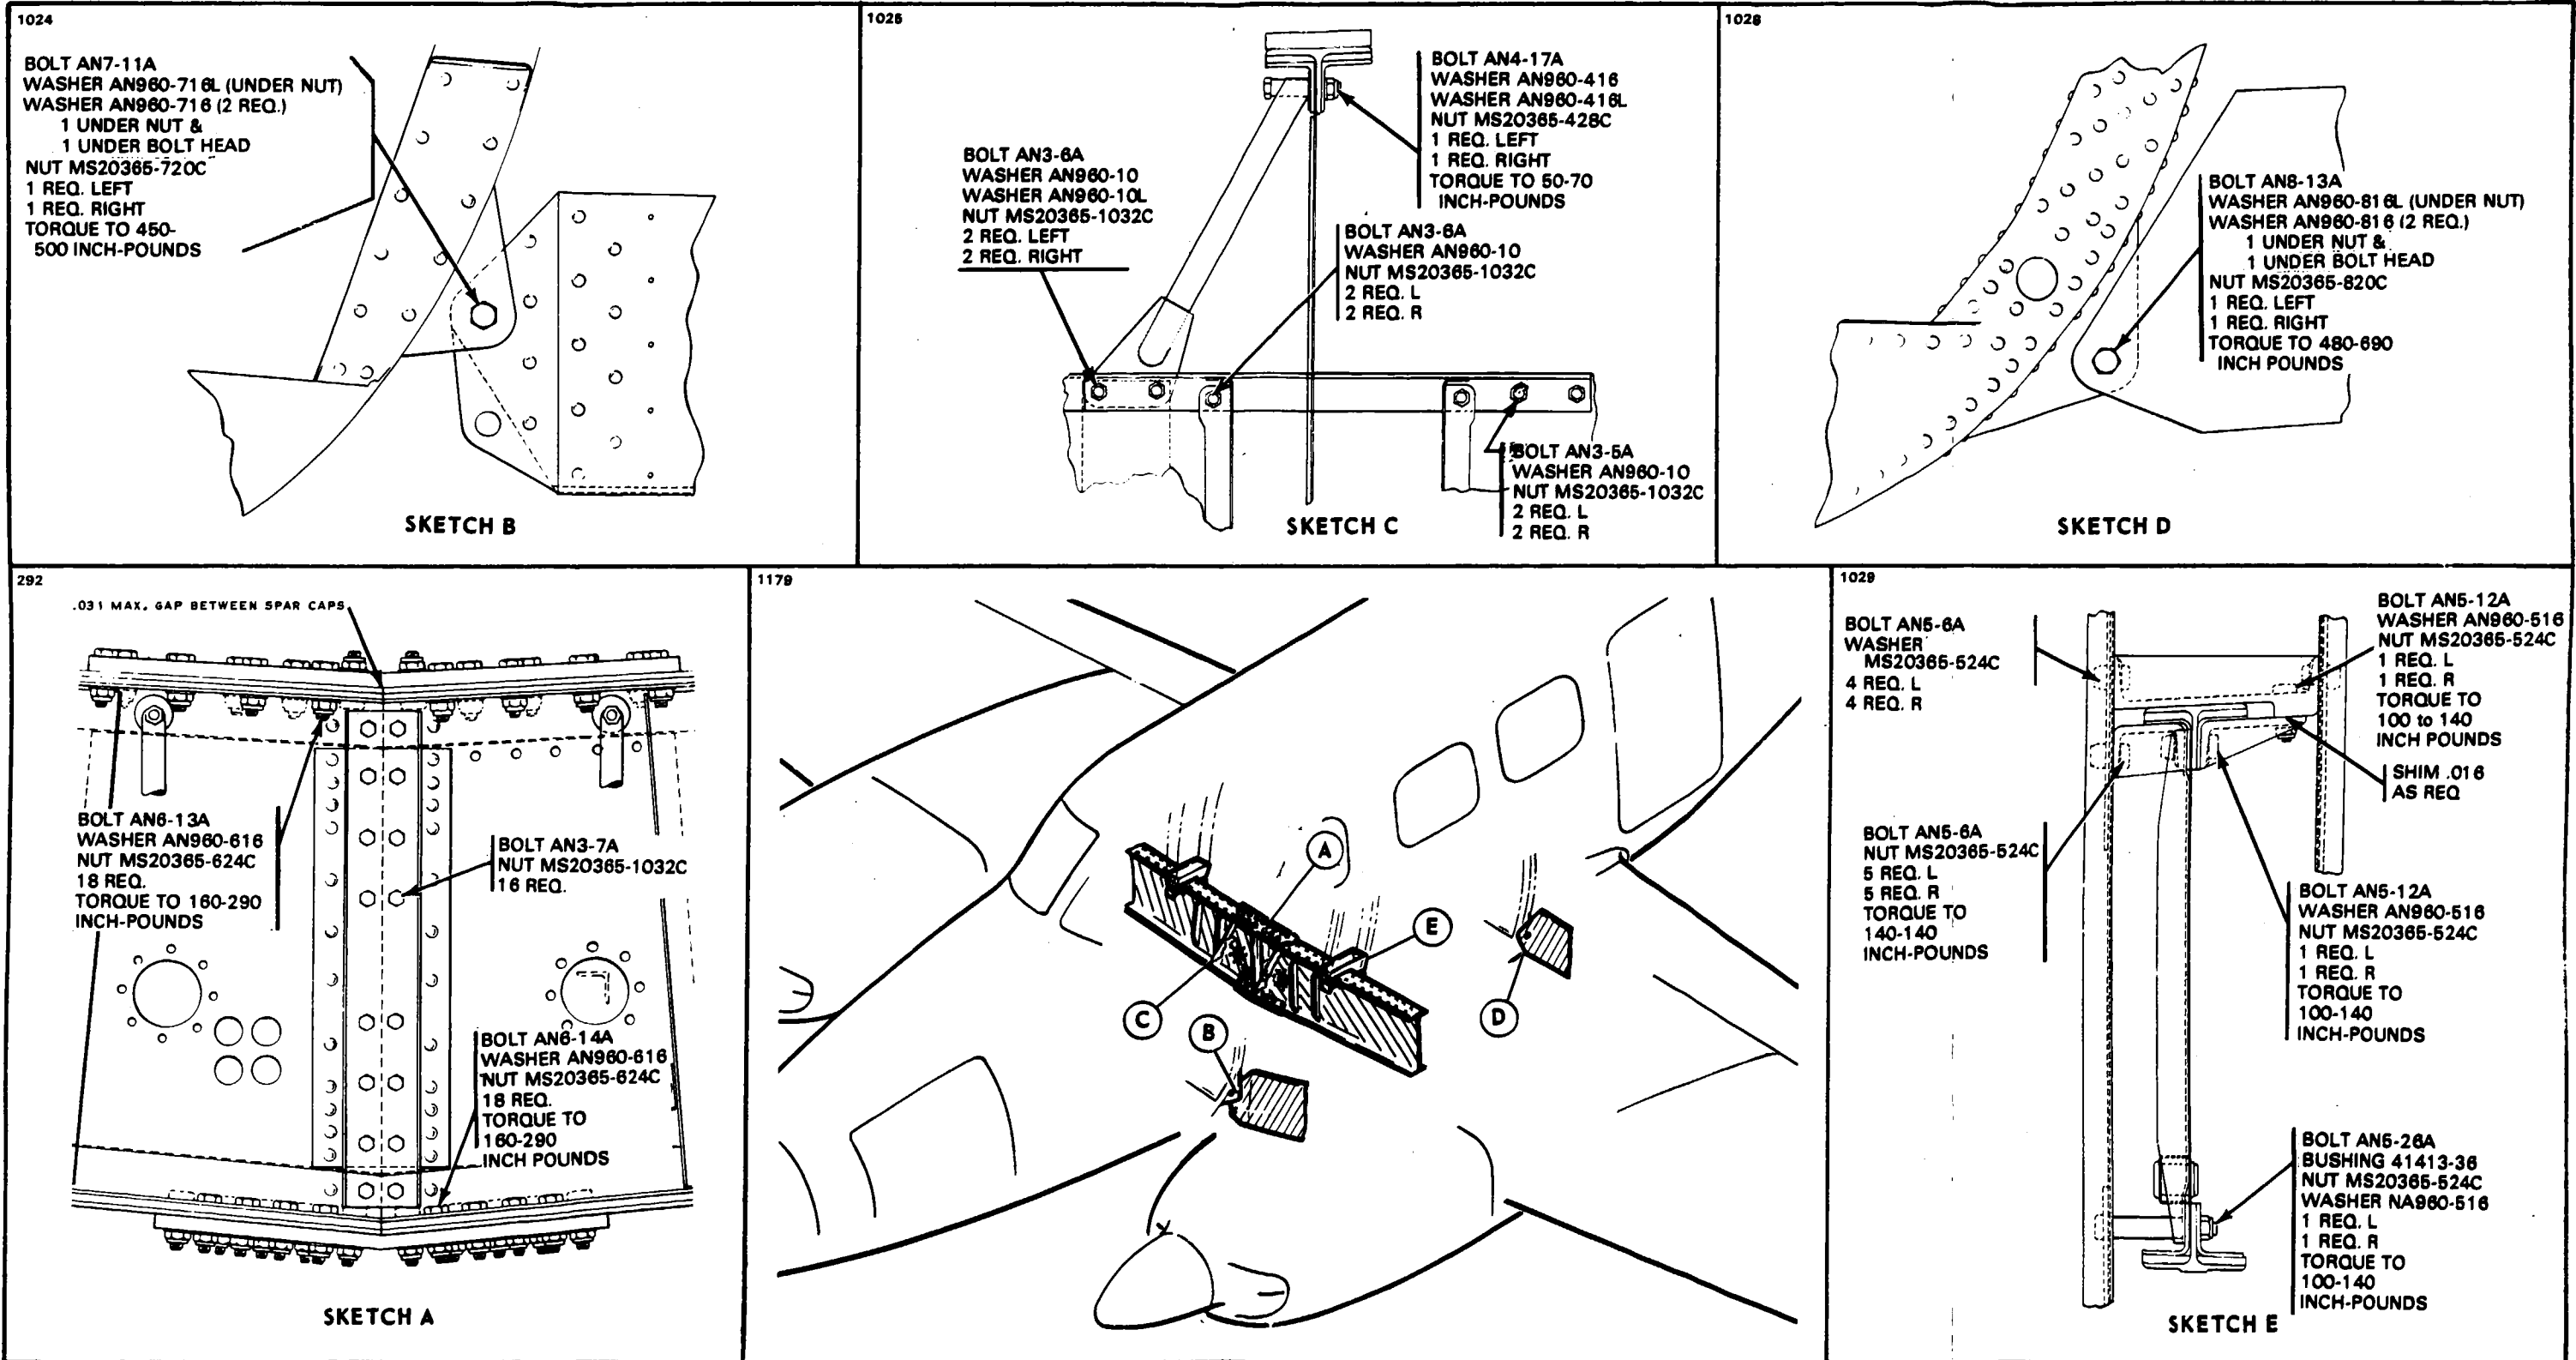

Figure 4-4. Wing Installation
4-18. REMOVAL OF WING. (Refer to Figure 4-4.)
4-19. INSTALLATION OF WING. (Refer to Figure 4-4.) (Left or Right.)
- l. Tighten bolts of all attachment fittings, plates, etc., to the torques specified in Fig. 4-4, all other bolts use standard torque values. (Refer to Figure 4-4 to obtain torques.)